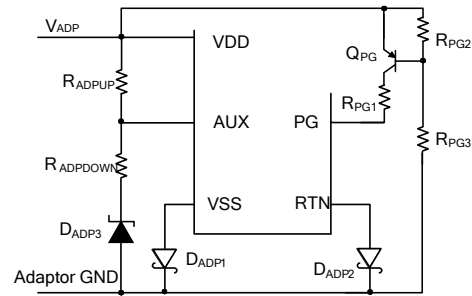

Figure 5: Wall Adapter Detection Circuit
When an auxiliary power source, such as a wall power adapter, is used to power the device, the divider resistors, R_{ADPUP}, R_{ADPDOWN}, and D_{ADP3} should be chosen to satisfy Equation (1) for correct wall power adapter detection (see Figure 5).
If one adapter power less than 11.5V is connected to supply the converter, the PG function cannot work with such a low input. The external PG pull-up circuit is recommended (see Figure 5). Typically, Q_{PG} requires a V_{CE} voltage higher than 100V, such as BSS63LT1. Choose R_{PG2} = 7.5k Ω and R_{PG3} = 100k Ω for a 12V adapter with some adapter regulation margin, and choose R_{PG1} = 100k Ω to limit the PG sink current.